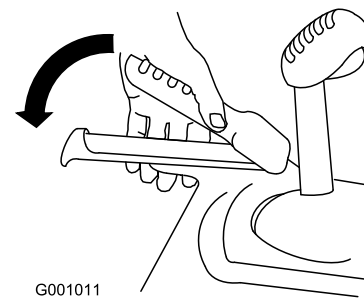

Figure 33
1. To engage the traction drive, squeeze the left (traction) lever to the handgrip (Figure 33).